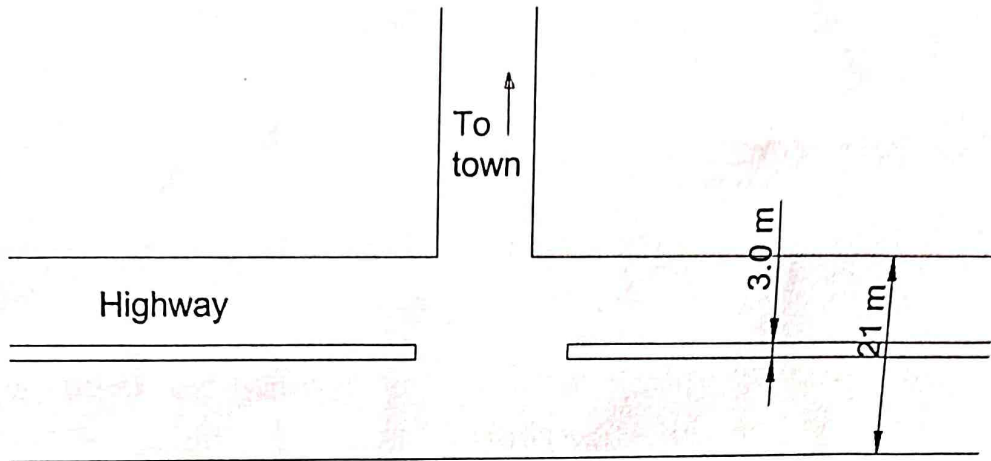

Figure 2 T- intersection at a highway connecting with a road to town
12. A highway (4-lane divided) connects with a town through a 2-lane road as shown in Figure 2. The highway authority found that conflicts were happening as vehicles from/to the town road interact with high-speed highway traffic. Draw and explain the necessary improvements needed at this intersection to mitigate this problem.